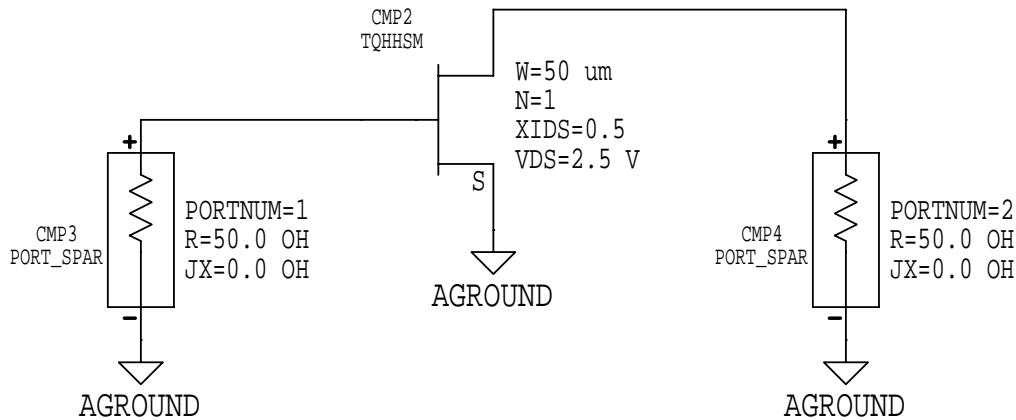
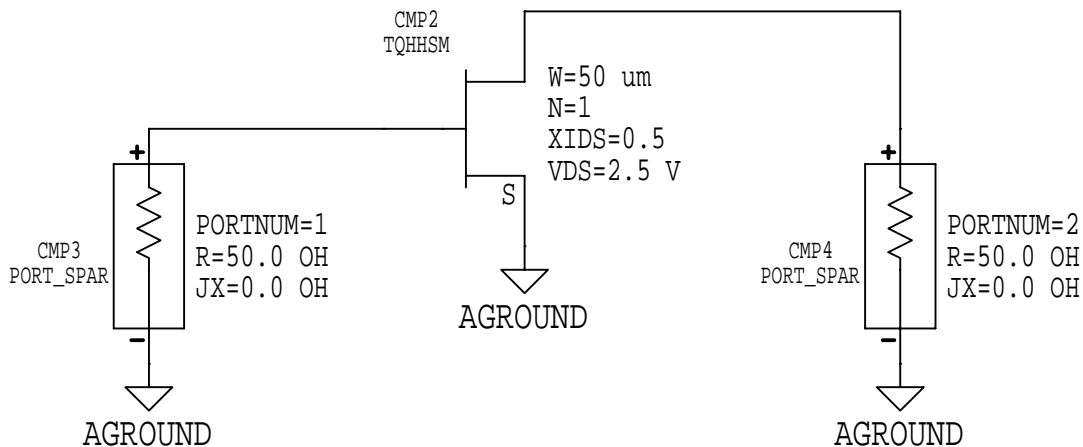
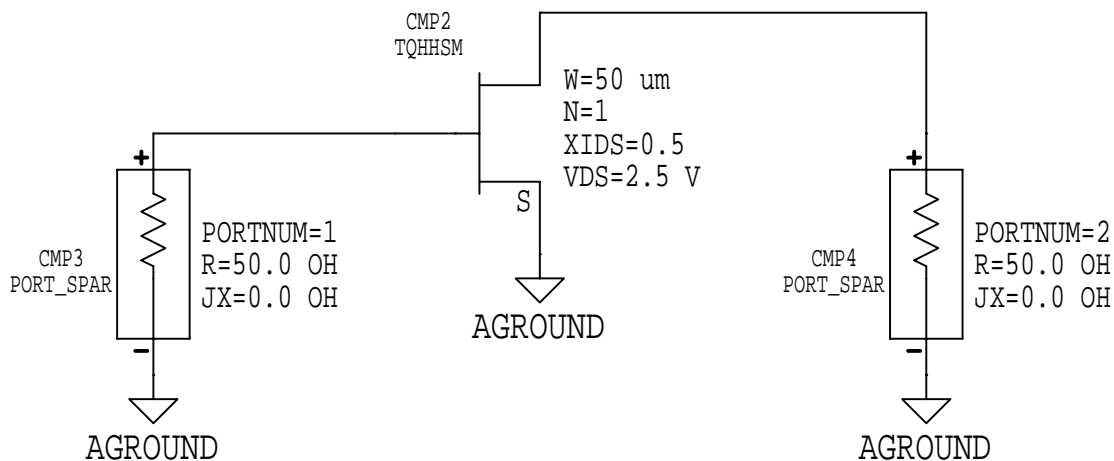

Figure 2: FET characterization test circuit
Figure 3: Device parameter variation test circuit
Figure 4: Γ_s test circuit
- Construct the circuit shown in Figure 2. To access the Triquint FET, click [MB:INSERT/MDS COMPONENTS/TRIQUINT - HA/FET MODEL/LINEAR HHSM].
1. At the design frequency of 15 GHz, verify that the Triquint FET meets the requirements for using the jointly matched terminations method. Which configuration (Fig. 4, 7, or 8 from the Edwards, Cheng, and Sinsky paper) does the Triquint FET match?
- Construct the circuit shown in Figure 3. This is essentially the same circuit as in Figure 2, but the equations are different. Record the component number (*CMP#*) of the FET; you will need it later.
- In Figure 3, the component number of the FET is *CMP2*. Set *Parameter Name* to “cmp2.W” (use your own *CMP#*). Set *Sweep type*=“Linear”, *Start*=45, *Stop*=55, and *Step-size*=2. The multipliers should all be “micro”. MDS will then sweep the *W* (gate finger width) variable of *CMP2* from 45 to 55 μm in 2 μm increments.
- Construct the circuit shown in Figure 4. This is essentially the same circuit as in Figure 3, but the equations are slightly different.